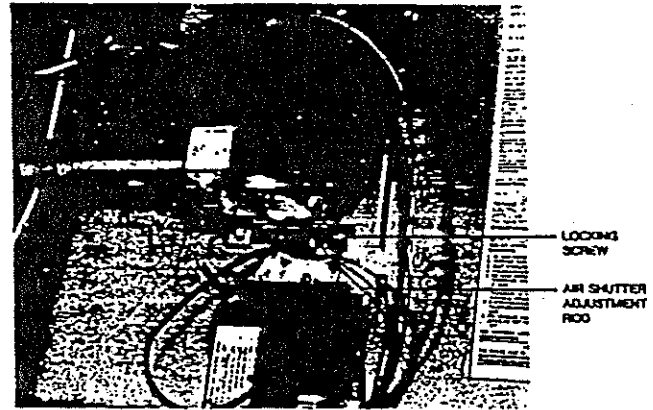

Figure 8
1. Loosen air adjustment rod locking screw. See figure 8.